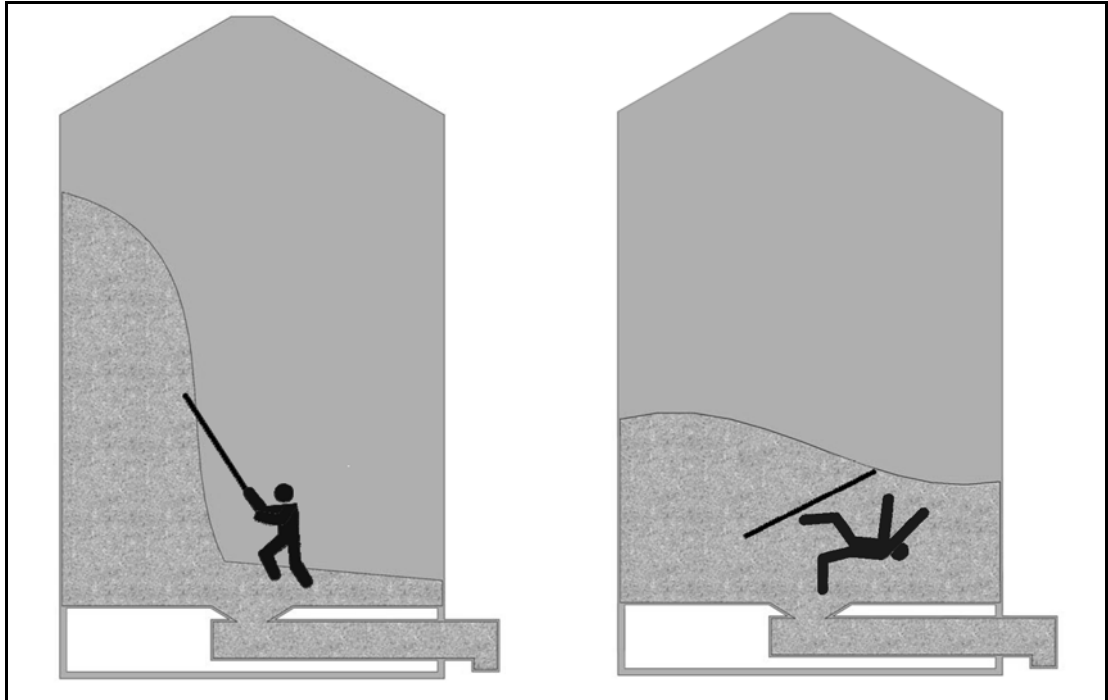

Figure 2.2 Vertical Wall Collapse
- Do not enter bin to break down grain that has set up. Break grain mass from top of bin outside. See Figure 2.2.